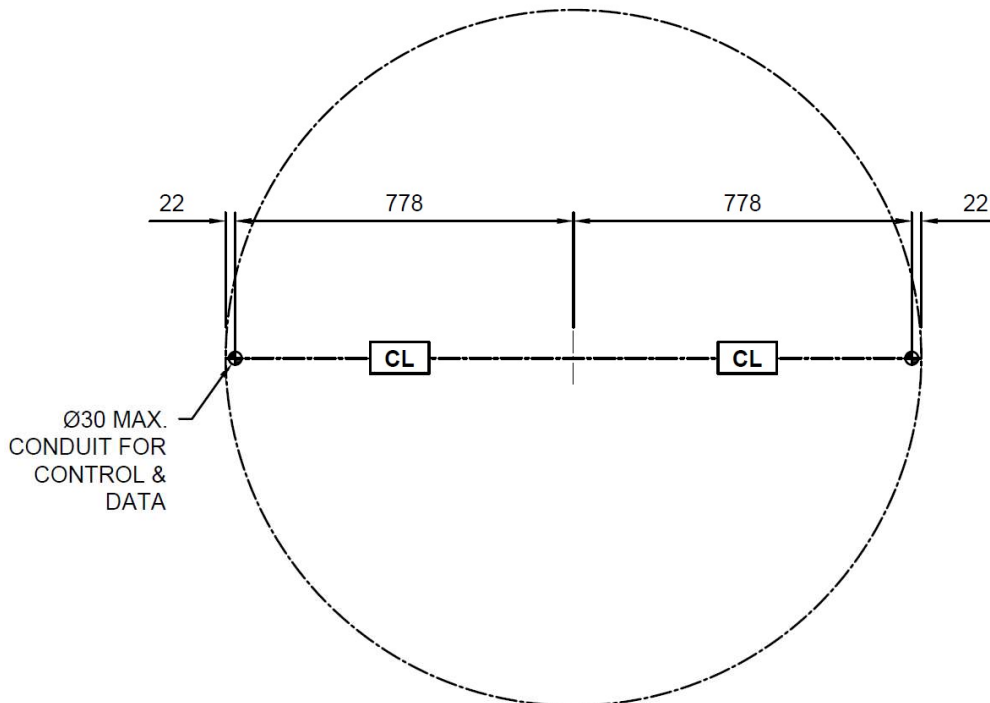

**Figure 4: Marking the floor: Step 1**
- 4.5. With a chalk line, measure the position as shown in *Figure 4*. The centre of the 1600mm length will be the centre of the turnstile. The edges of the 1600mm length will be the outer edges of the turnstile. The dashed line shows the chalk outlines required.